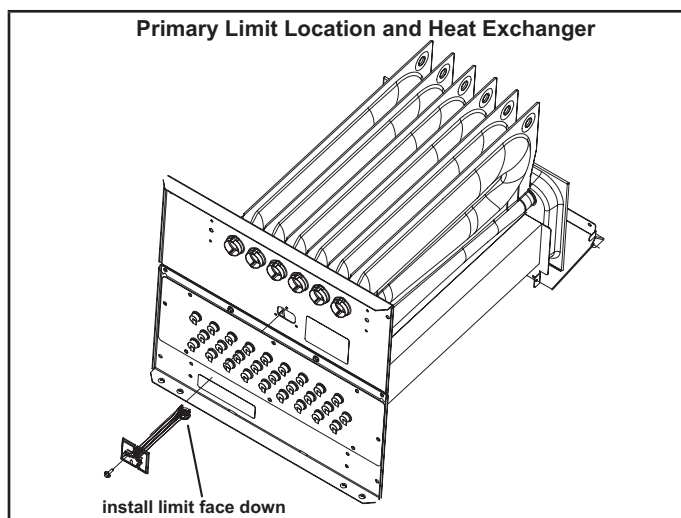

FIGURE 16
5. Duralock Plus Heat Exchanger (FIGURE 16)
FIGURE 16 shows the primary limit (S10) used on SL-P99UHVK units located in the heating vestibule panel. When excess heat is sensed in the heat exchanger, the limit will open. Once the limit opens, the furnace control energizes the supply air blower and de-energizes the gas valve. The limit automatically resets when unit temperature returns to normal. The switch is factory set and cannot be adjusted. In the event of restricted air flow, the integrated control will reduce firing rate and indoor blower airflow in 10% increments until a sustainable air flow is reached. If the furnace reaches 35% firing rate, and adequate air flow is not available, the furnace will shutdown and enter one hour watchdog. For limit replacement remove wires from limit terminals and rotate limit switch 90 degrees. Slowly remove from the vestibule panel.